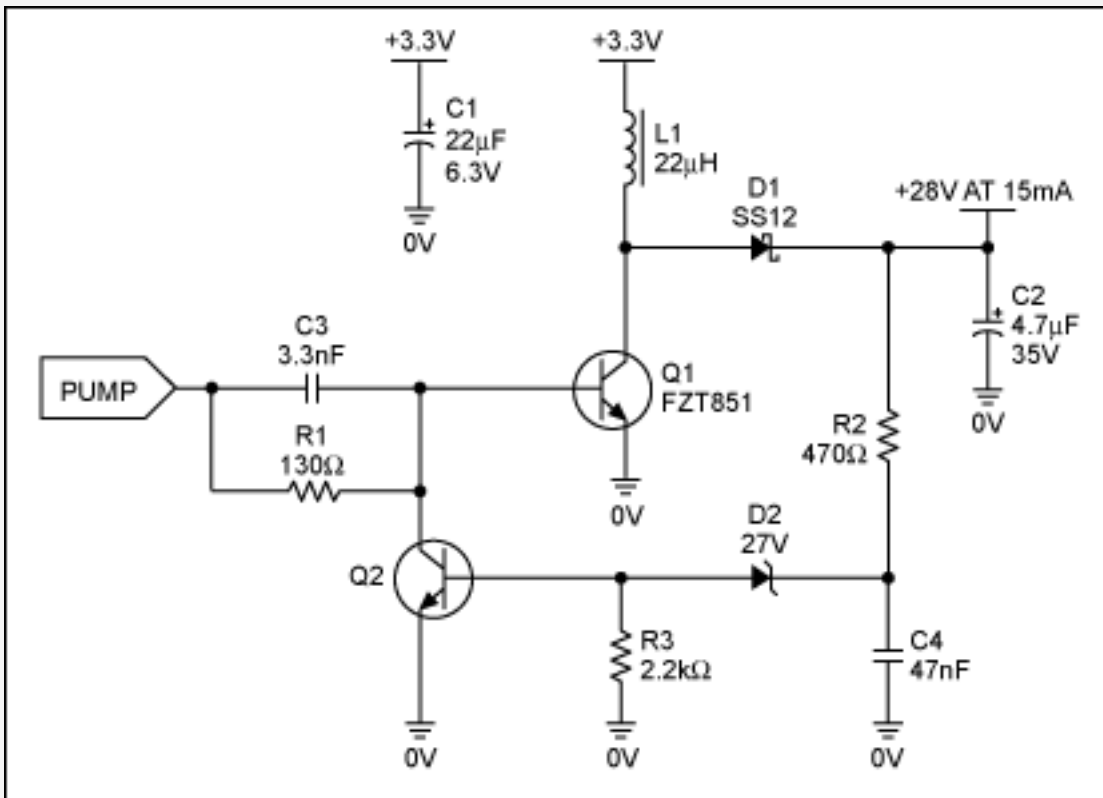
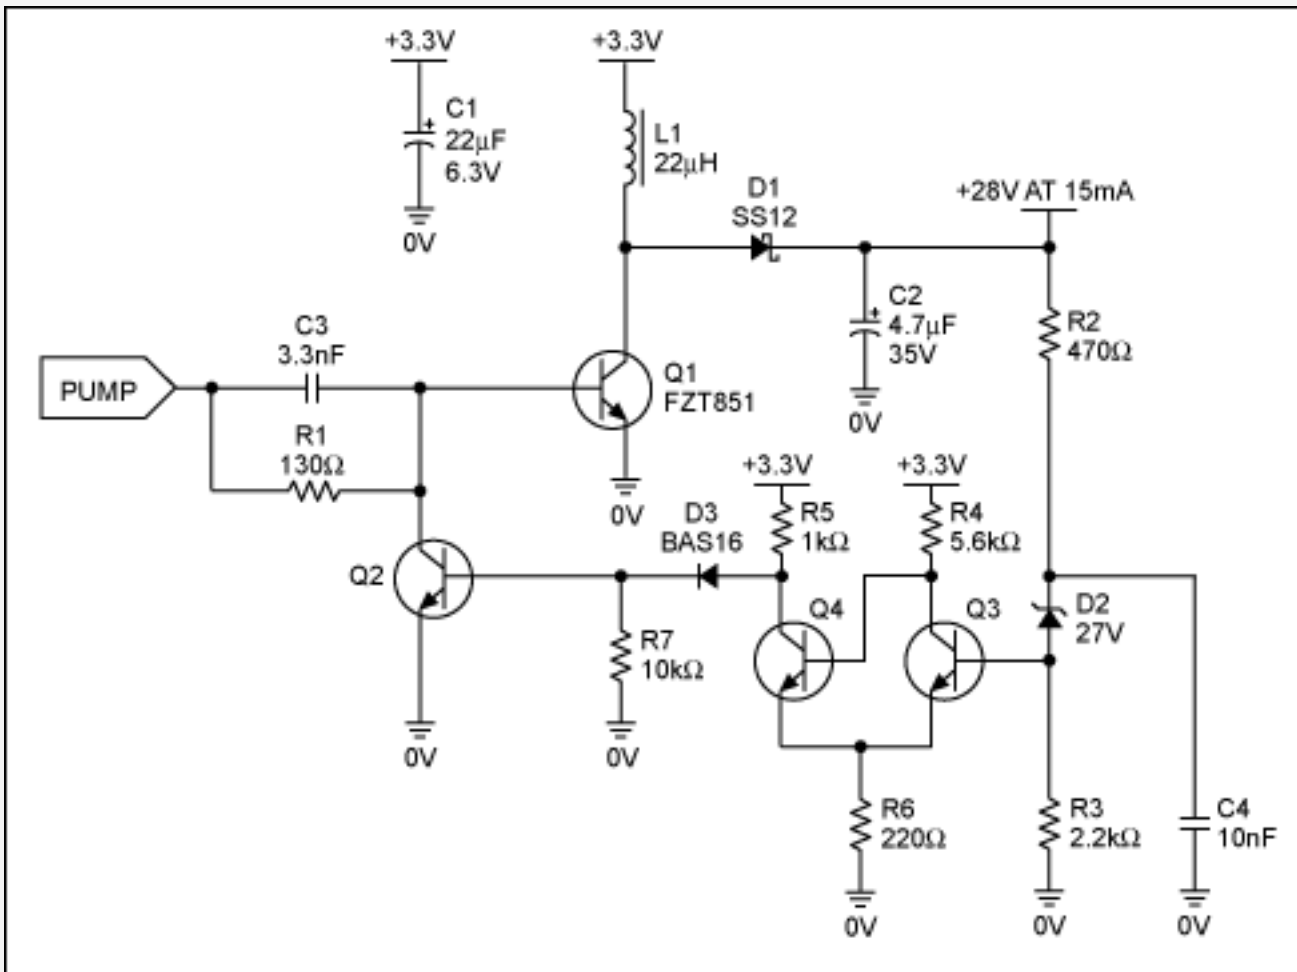

Figure 3. One transistor feedback control.
Figure 4. Schmitt trigger feedback control.
**Figure 3** shows an implementation of a low cost boost converter with feedback. To understand the circuit operation, first consider the start of the cycle when PUMP is rising. Presume for the moment that the circuit is out of regulation and Q2 is off. As PUMP rises, Q1 turns on as a switch, and current starts to ramp up through L1. Half a PUMP clock cycle later, PUMP falls and Q1 turns off. L1 current has meanwhile ramped up to a value  $I_{pk}$ , and this current now flows through diode D1 into the output capacitor C2 and any load that is present. If the output voltage is high enough to turn on zener diode D2, then current will flow through D2 and R2. As the output voltage rises above this threshold, eventually Q2 will turn on, clamping the base-emitter of Q1, preventing Q1 from turning on when PUMP next goes high. Otherwise, R3 ensures Q2 stays off, Q1 turns on again and the conversion repeats. C4 provides a small delay to the detection to reduce the chatter as the Q2 switches on and off to maintain regulation.
The simple circuit of Figure 3 can be improved by adding hysteresis to the output voltage detection. Hysteresis ensures that Q2 is always hard on or off. Without hysteresis, Q2 can turn partly on at the regulation threshold, bleeding some of the base current from Q1. When this happens Q1 may not saturate as hard, reducing efficiency. Hysteresis can be achieved by adding a two transistor Schmitt trigger, as shown in **Figure 4**. The Schmitt trigger adds about 0.25V hysteresis to the detection threshold. The Schmitt trigger output at the collector of Q4 switches between 3.3V and 0.9V, so D3 and R7 are required to ensure Q2 turns off.